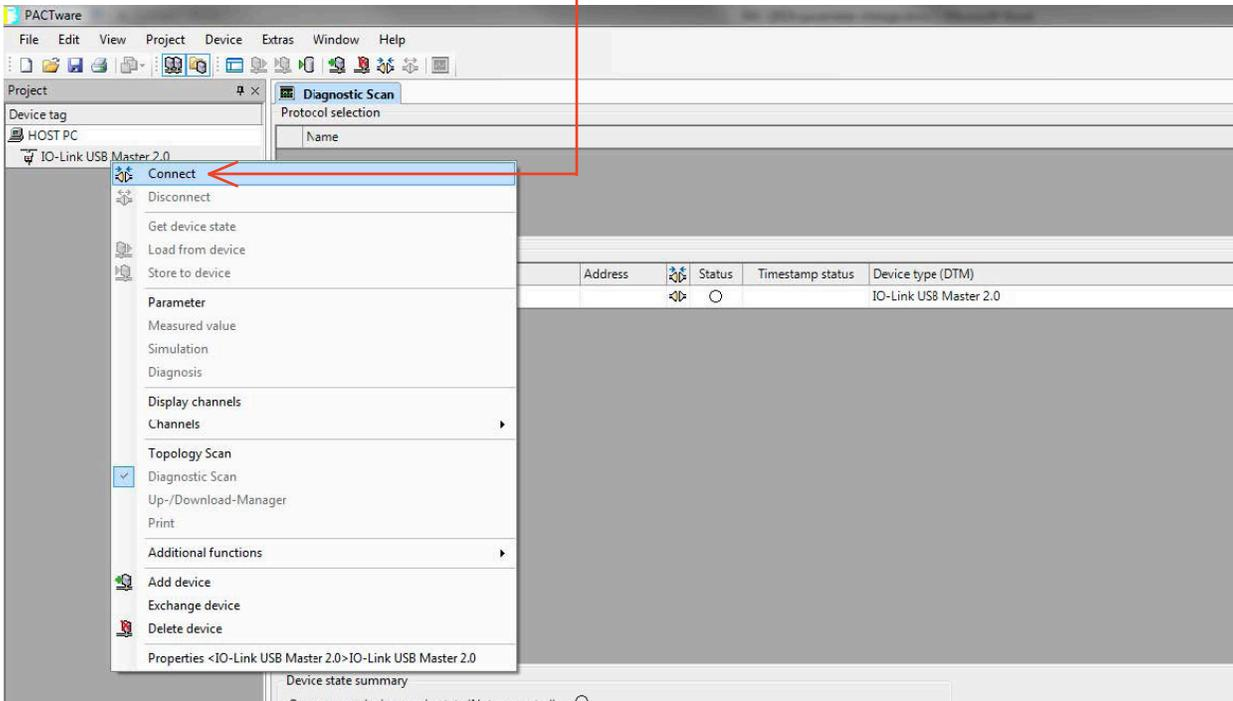

Figure 5
5) You will see that it will populate in the project window under HOST PC. Right click on it and click on “Connect” (See Figure 5)